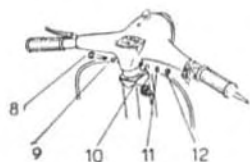

Fig. 23 - Assembling the handlebars.
— Insert the front brake control cable through the hole in the steering column, until it protrudes from the bottom, then place the handlebars on top of the steering column in proper position to insert the bolt (Fig. 23, Nq. 8) with plain washer (9) under the hexagon; place another plain washer (10), spring washer (11) and screw the nut (12) finger-tight.
- b) - By inspection align the handlebars in a plane parallel with a line drawn through the front axle, then tighten the nut (Fig. 23, No. 12) to secure the handlebars firmly.